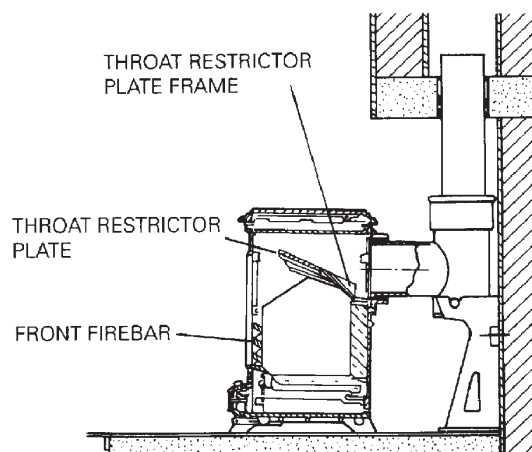

Fig.7
- Open the firedoors, remove front firebar, throat restrictor and frame. Fig. 7.